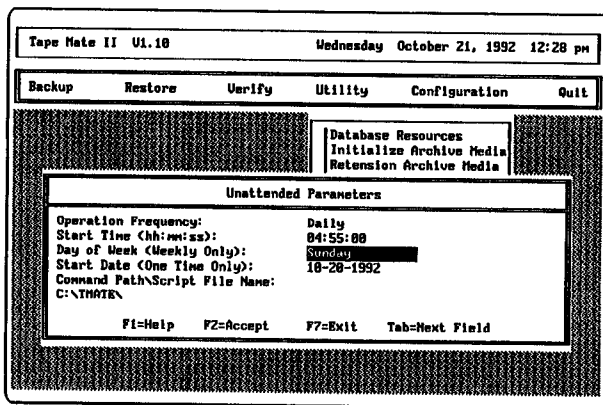

Figure 63 Unattended Parameters Dialog Box
1. Open the Utility menu and select **Unattended Parameters**. The Unattended Parameters dialog box displays as shown in *Figure 63*.